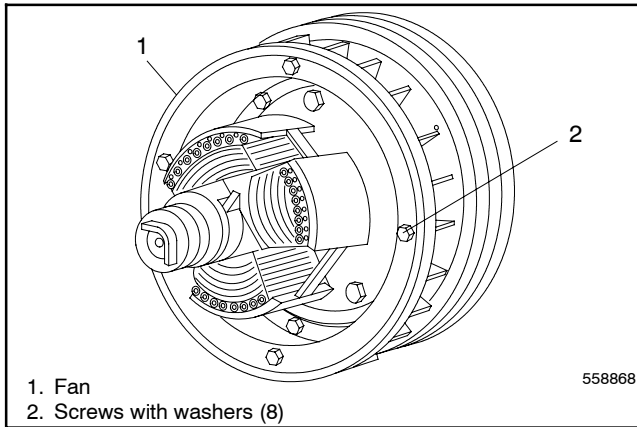

Figure 15-8 Fan Removal
15. Remove the eight screws and washer attaching the alternator fan to the rotor. See Figure 15-8.
16. Remove the alternator fan. See Figure 15-8.